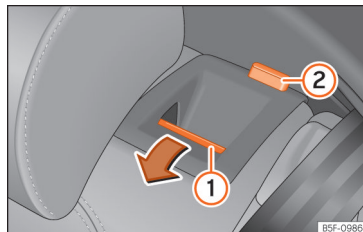

Fig. 62 Rear seat: folding down the backrest.
- Press the unlock button >>> Fig. 62 1 forwards and at the same time fold the backrest down. The rear seat backrest is not engaged when the red marking of the button 2 is visible.